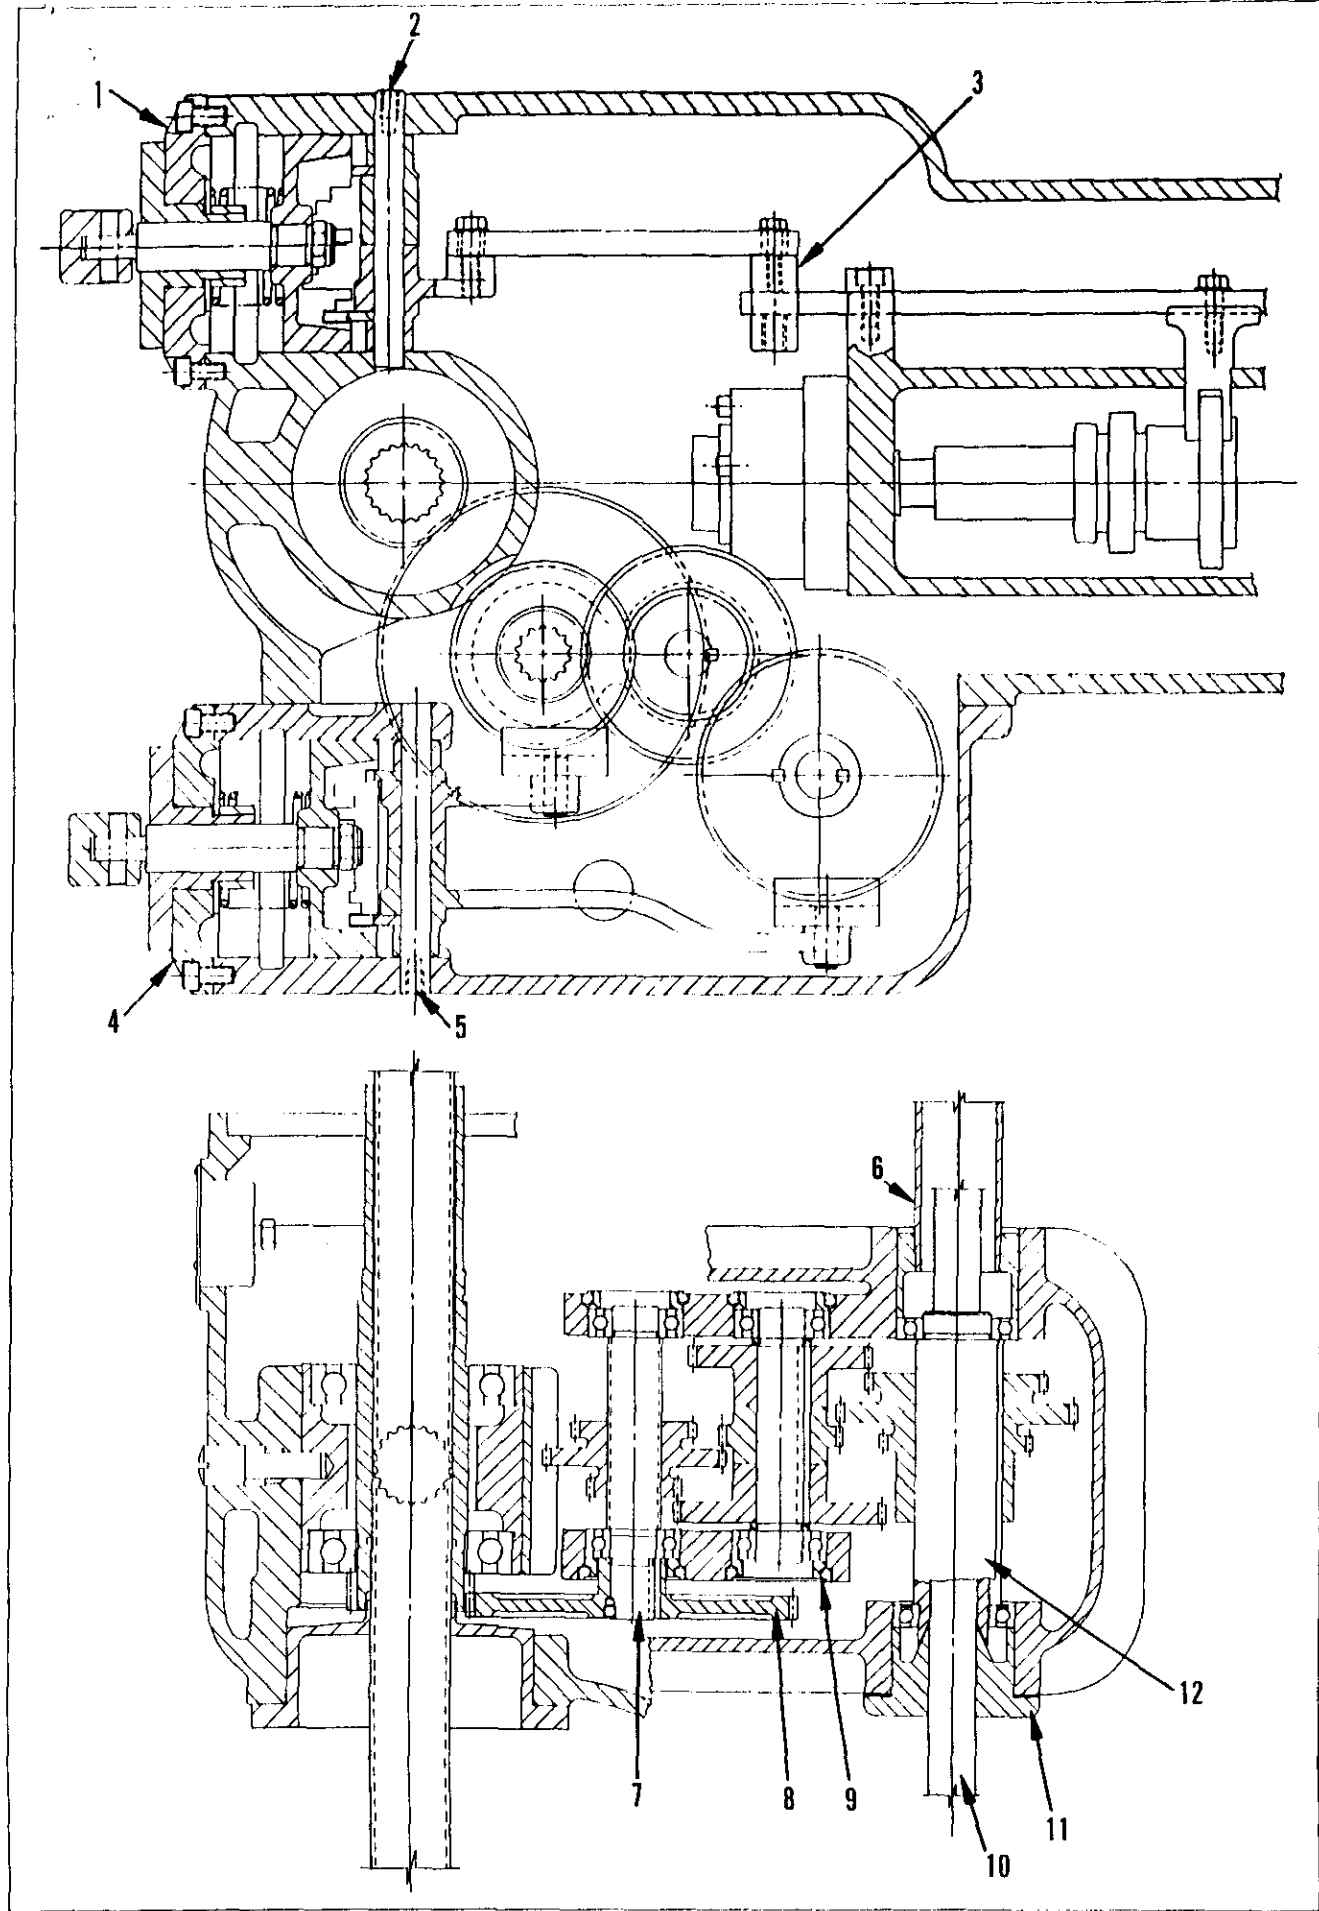

Figure M-1. Top Head - Feed Transmission
FEED TRANSMISSION REMOVAL (Figure M-1)
3. Raise feed shaft (10, Figure M-1) up high enough to entirely clear the sliding head and lock in place by means of a 1" set collar or lathe dog slipped over the upper end of the shaft.
LEGEND - Figure M-1
DISASSEMBLY OF FEED GEAR BOX (Figure M-1)
GEAR SHIFTING MECHANISM - DIAL - FEED OR SPEED (Figure M-1)
1. Loosen the cap screws from the cover (2) around the motor shaft.
3. Remove the top cover (10).
6. Reach through the feed box opening and loosen the set screws in the square collars (3, Figure M-1), which are mounted on the gear shifter bars. By pulling out on the speed change lever, the collars can be slipped off the shifter bars.